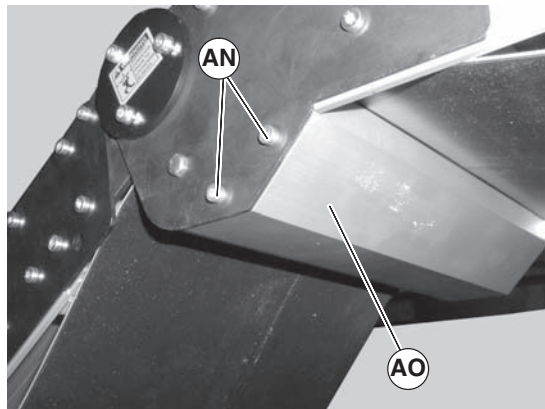

Figure 32
6. Install knuckle guard (Figure 32, item AO) with screws (AN) on both sides of knuckle. Tighten screws to 25 in-lbs (3 N-m).